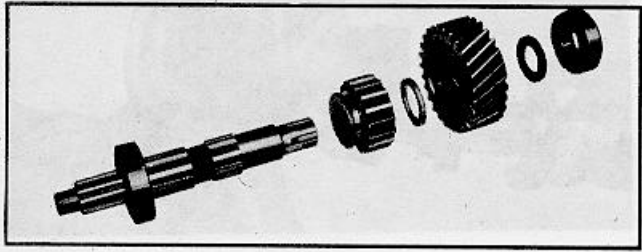

Fig. 24.
1. Install front bearing on input shaft with shielded side against shoulder (Fig. 24).